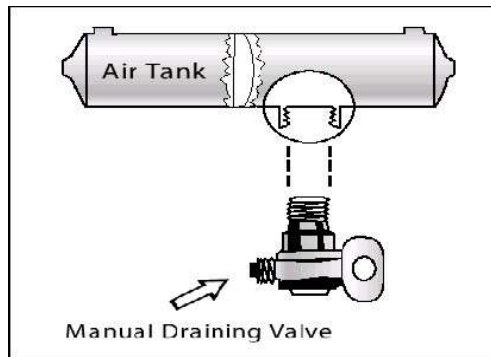

Figure 5.1
- Manually operated by turning a quarter turn or by pulling a cable. You must drain the tanks yourself at the end of each day of driving. See **Figure 5.1**.